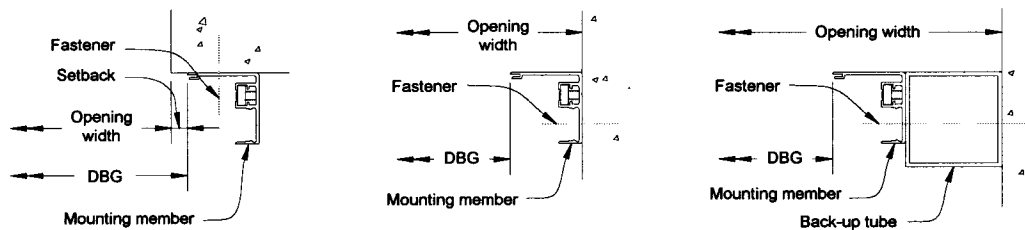

Figure 2
Step 3: Install mounting members; refer to Figure 2. Two mounting members are supplied, one right hand and one left hand. Figure 2 shows the three standard types of mounting, starting from the left: face of wall (FOW), between jambs (BJ) and between jambs (BJ) with back-up tube. Place left mounting member at desired location on the jamb, plumb and mark jamb at fastener locations. Remove member; drill and prepare holes for wall fasteners. Place member back on jamb, lining up holes in member to those in the jamb, and install wall fasteners tightening them snugly. Measure the DBG from a point on left mounting member as shown in Figure 2 to the same point at which right mounting member will be located and make a reference mark. Placing right member on jamb at reference mark, plumb and mark at fastener locations. Placing member aside, drill and prepare holes